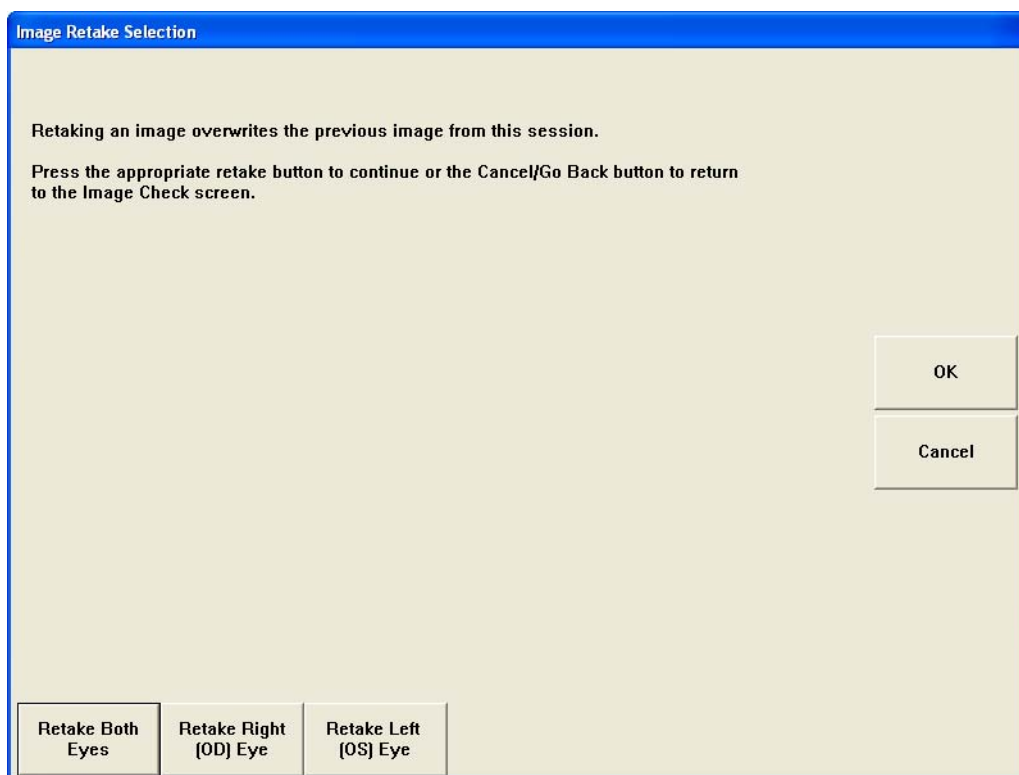

Figure 4-26 Image Retake Selection Screen
At the IMAGE CHECK screen, select **Retake Image** to display the IMAGE RETAKE SELECTION screen (Figure 4-26). You can choose **Retake Both Eyes** (or **OK**), **Retake Right (OD) Eye**, or **Retake Left (OS) Eye**.